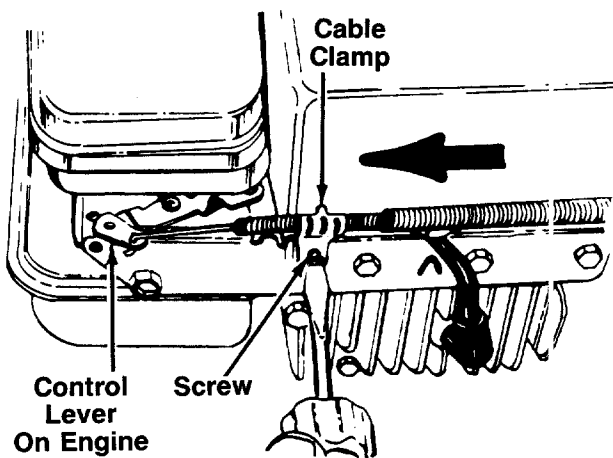

FIGURE 12.
1. Loosen (do not remove) the screw on the cable clamp so that the cable will move freely under the clamp. See figure 12.